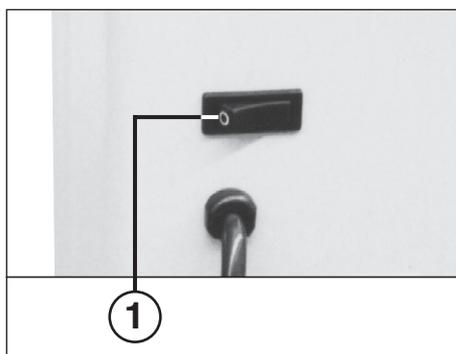
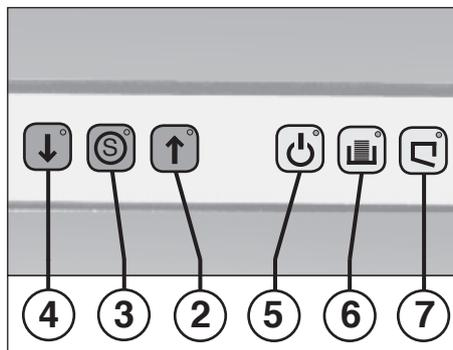

fig. 1
fig. 2
- 1 = Rocker switch „ready“ (fig. 1)**
- 2 = „Cutting system forward“ pushbutton (fig. 2)**
- 3 = „Cutting system stop“ pushbutton (fig. 2)**
- 4 = „Cutting system reverse“ pushbutton (fig. 2)**
- 5 = Pilot lamp „ready“ (fig. 2)**
- 6 = Pilot lamp „receptacle full“ (fig. 2)**
- 7 = Pilot lamp „door open“ (fig. 1)**
To start, switch on the unit by operating the rocker switch (1) (fig. 1). The pilot lamp marked „ready for operation“ (5), as well as the red stop-button „S“ (3) (fig. 2) will light to indicate that the machine is ready for operation.
When the receptacle is full, the machine turns off automatically and a horn sounds. The pilot lamp (6) (fig. 2) lights up. Empty the receptacle as follows:
- Open door. The pilot lamp (7) (fig. 2) lights up.
- The horn stops. The pilot lamp (6) goes off.
- Place empty sack into receptacle, push in the receptacle and close door. The pilot lamp (7) goes off.
Please make sure that the shredder is switched off over night (rocker switch (1) (fig. 1)).